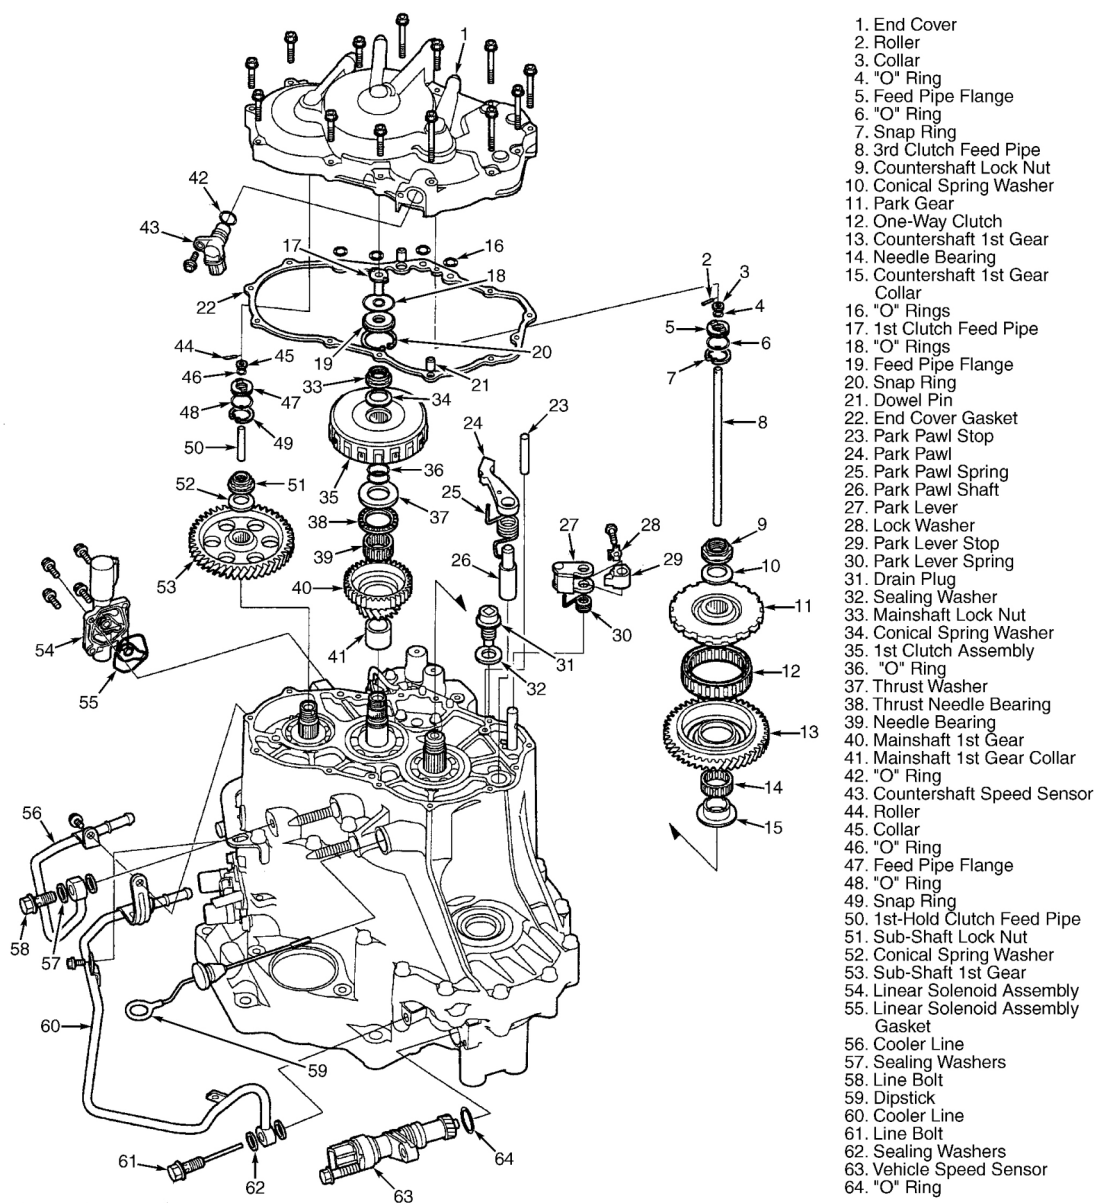
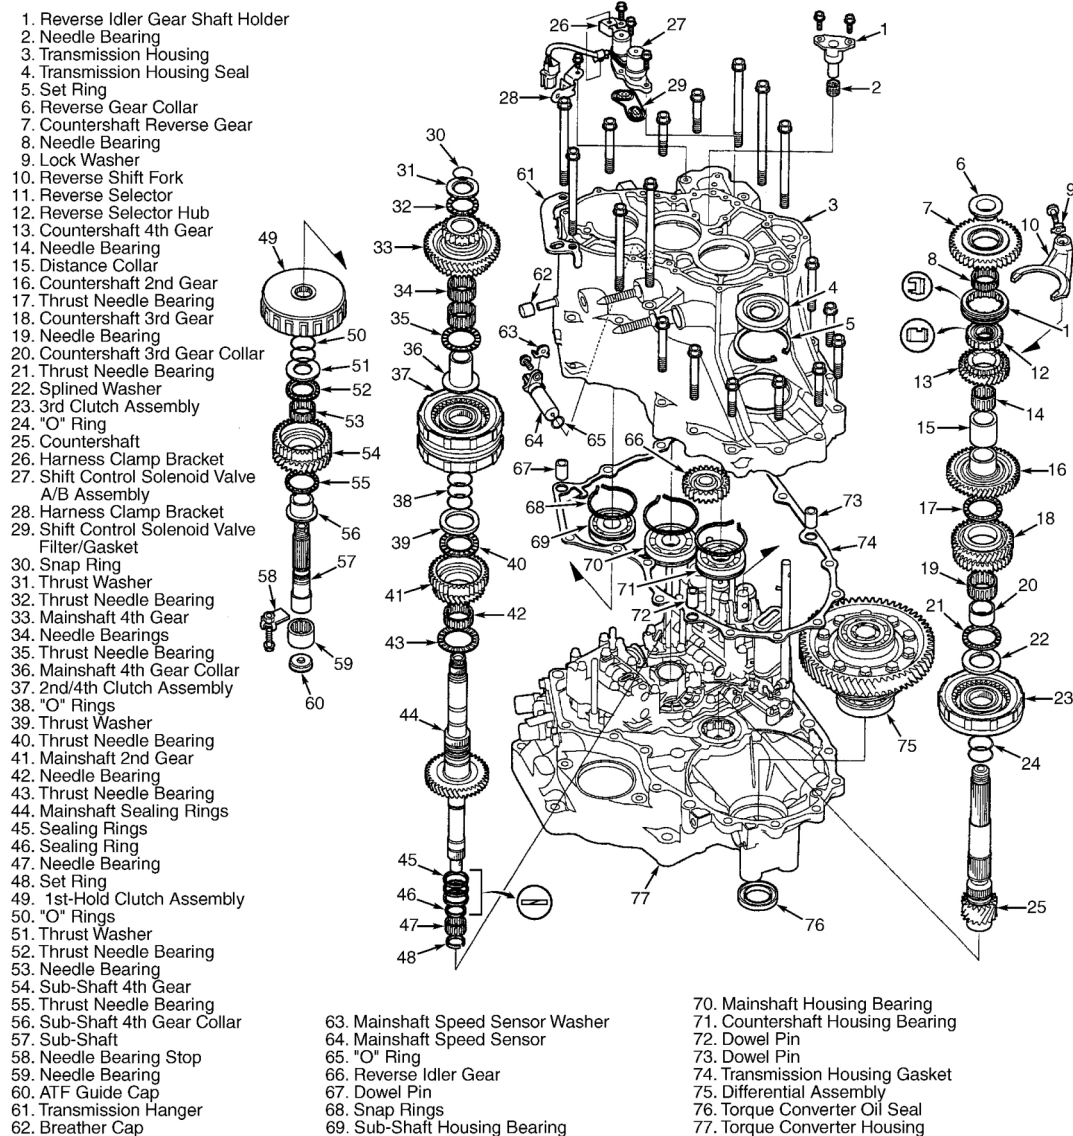

Fig. 7: Exploded View Of End Cover & Components
Fig. 11: Exploded View Of Transaxle Housing & Components
1. Remove bolts, end cover and gasket. See **Fig. 7** . Secure mainshaft with Holder (07GAB-PF50101). See **Fig. 8** . Engage parking pawl with parking gear. Using hammer and chisel, cut lock tabs on countershaft and sub-shaft lock nuts. Pry lock tabs on mainshaft lock nut upward.
3. Remove mainshaft holder. Remove pin securing sub-shaft 1st gear. Remove 1st clutch assembly, mainshaft 1st gear, thrust washer and mainshaft 1st gear collar from mainshaft. See **Fig. 7** .
4. Remove sub-shaft 1st gear. Remove parking pawl. Using puller, remove parking gear, one-way clutch and countershaft 1st gear from countershaft. Remove needle bearing and countershaft 1st gear collar from countershaft. See **Fig. 7** .
5. Remove parking brake lever and parking brake lever spring from control shaft. See **Fig. 7** . Remove dipstick, vehicle speed sensor, joint bolts and cooler pipes. Remove mount bracket from transaxle housing. See **Fig. 11** . Remove transaxle housing bolts and transaxle hanger.
7. Remove countershaft reverse gear collar, needle bearing and countershaft reverse gear from countershaft. See **Fig. 11** . Remove bolt and bolt lock from reverse shift fork. Remove reverse shift fork with reverse selector from countershaft.